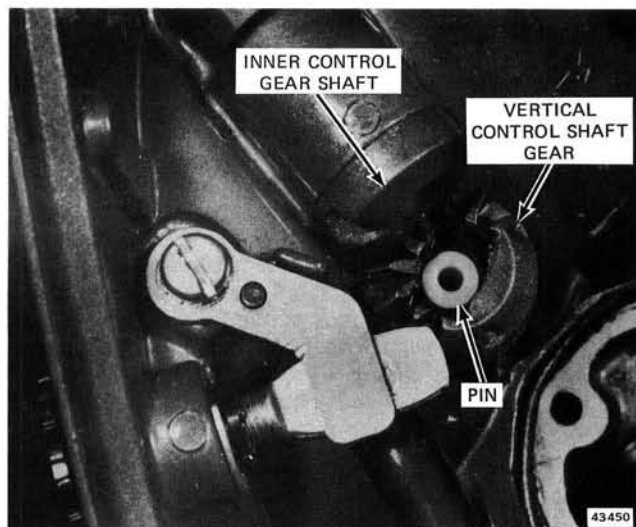
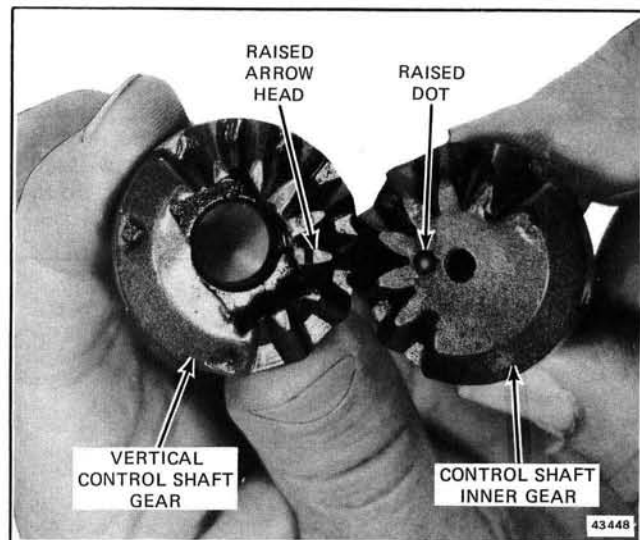

Figure 6-6. Vertical Control Shaft Lever Gears and Pin
Figure 6-17. Gear Alignment Marks
3. Remove vertical control shaft lever pin, vertical control shaft gear, and inner control shaft gear. See Figure 6-6.
9. Lubricate with OMC Anti-Corrosion Lube, and install vertical control shaft gear aligning dot on vertical control shaft gear with raised arrow on inner control shaft gear. See Figure 6-17. Insert pin. See Figure 6-6.